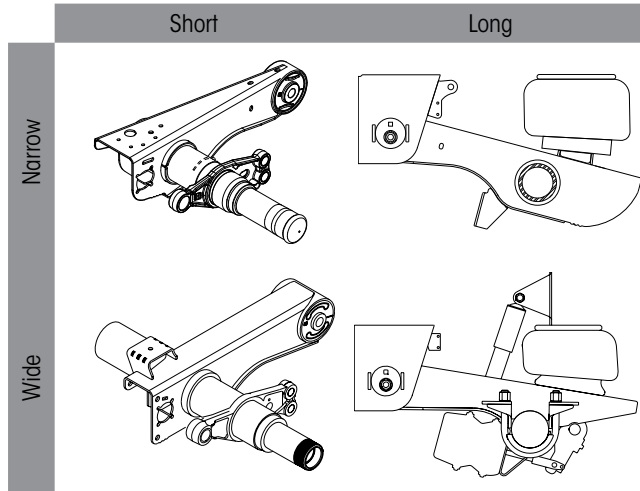
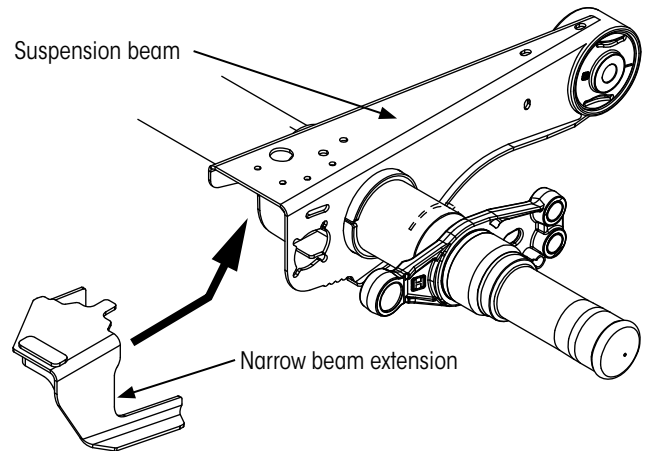
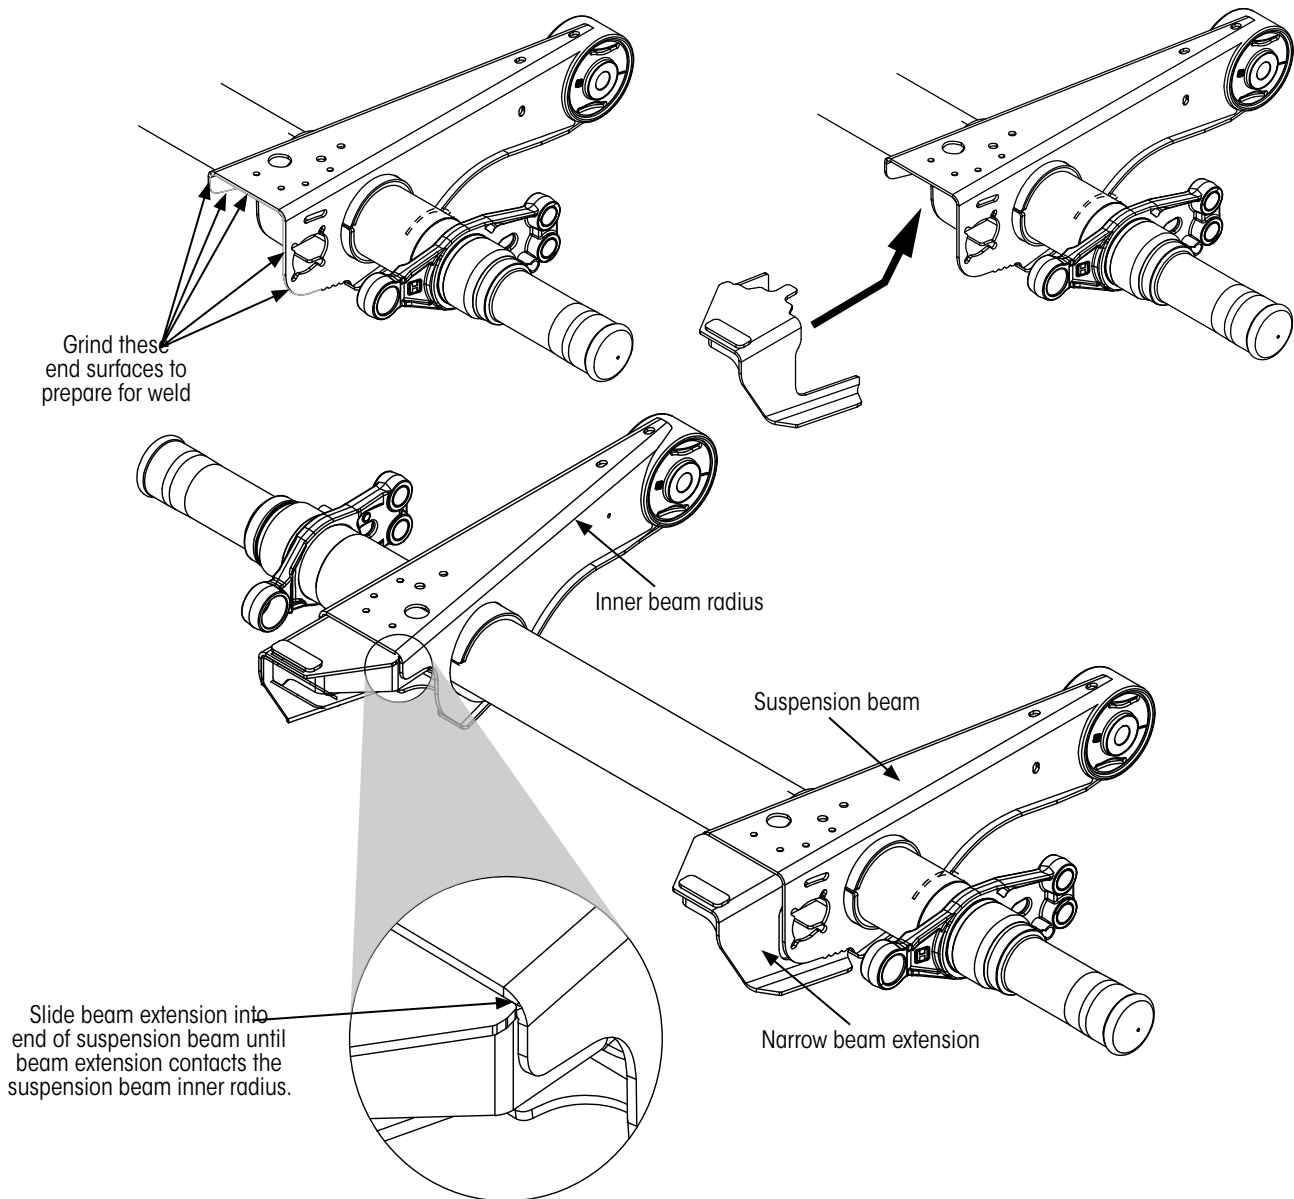

Figure 61: Suspension beam types
Figure 64: Narrow suspension beam with beam extension
Figure 65: Prepping narrow suspension beams for welding and installing the beam extensions
If installed as an aftermarket SURELOK® kit, existing suspension beams are likely standard suspension beams which are too short (Figure 61) to extend below the SURELOK lock assembly arms. In this case the specified kit should include beam extensions, which are installed according to the applicable procedure defined in this section and in the included installation drawing¹.
The steps in this procedure apply to all INTRAAX® AANT and VANTRAAX® HKANT narrow bushing suspensions with standard suspension beams (Figure 61 and Figure 64) and no SURELOK currently installed.
1. Prepare the ends of each rear suspension beam for welding (Figure 65). Using a grinder, remove paint, debris and all foreign material from the ends of each rear suspension beam.
2. Slide a beam extension into the end of the rear suspension beam as far as it will go. It is designed to be self positioning. Make sure the entire extension is inside the suspension beam as shown in Figure 64 and Figure 65.
3. Using a C-clamp or other suitable device, temporarily clamp the extended tab of the extension to the inside top surface of the suspension beam. The extension must be parallel with the top of the suspension beam (Figure 65).